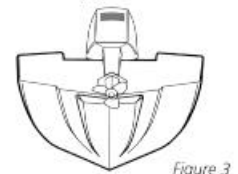

Figure 3
- On boats with stepped hulls, it may be possible to mount the transducer on the step. Never mount the transducer on the transom behind a step, as this area of the transom will not be in contact with the water at high speed (Figure 3).